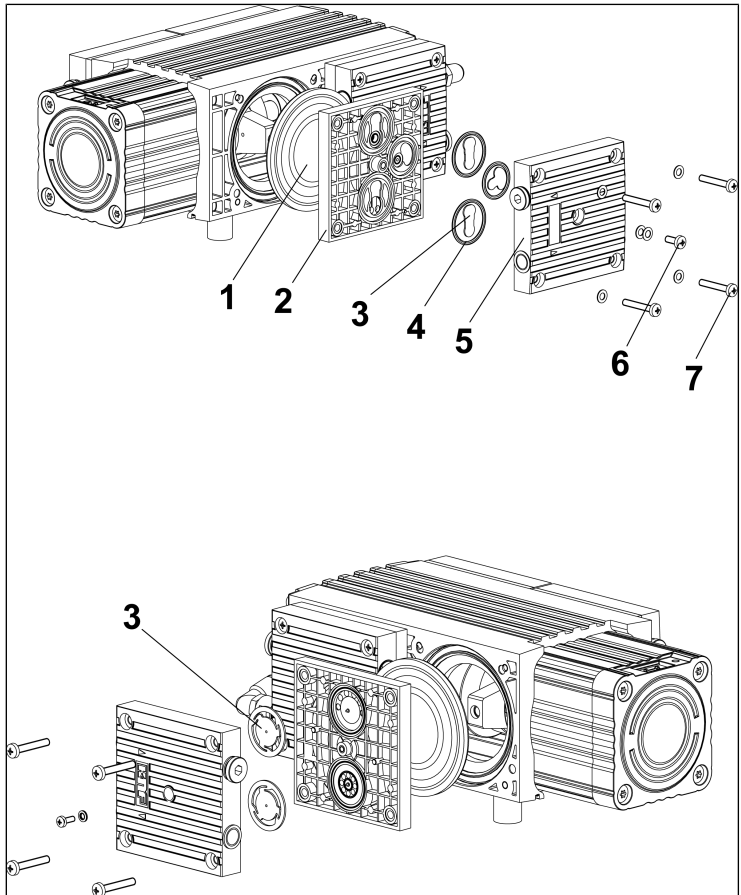

Fig. 11: Exploded view
\*\*see Fig. 11
7. Loosen the outer 8 fastening screws (7/Fig. 11) of the heads (1 and 2) and remove the heads (1 and 2).
4. Place heads 1 and 2 on the compressor housing and cross-tighten the fastening screws (7/Fig. 11) hand-tight (tightening torque: 3.5 Nm).